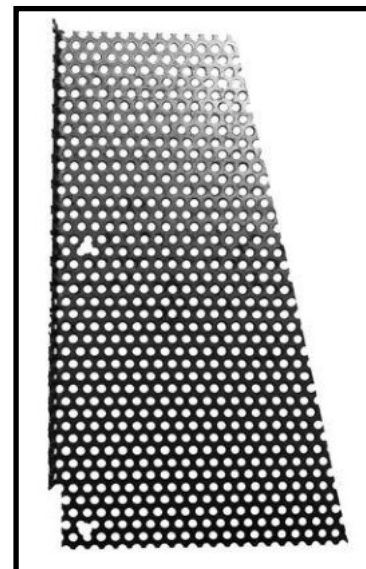
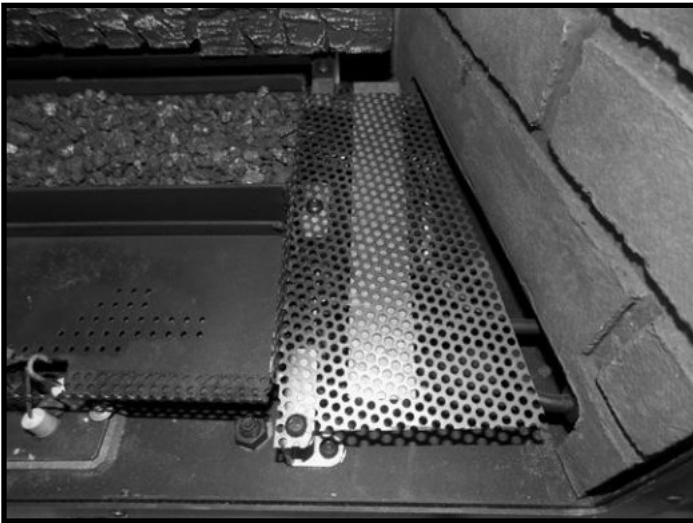
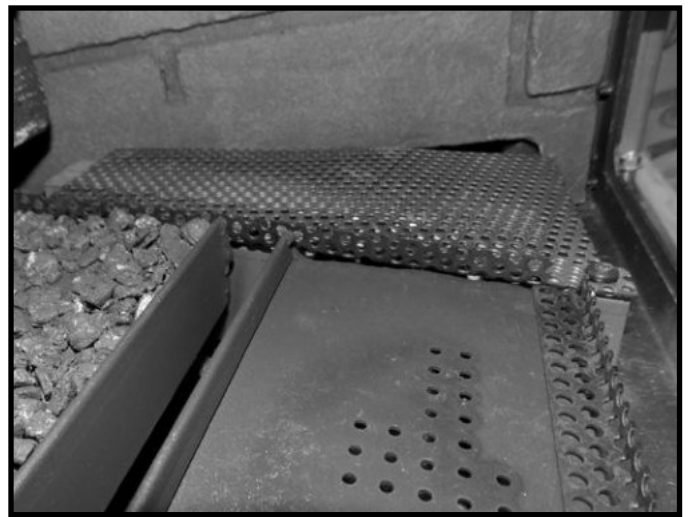

Figure 69: Side retainer.
Figure 70: Side retainer in place.
Figure 71: Front and side retainers in place.
5. Place the side vermiculite retainer (Figure 69) on the right of the burners and secure with supplied screws (Figure 70).
6. Once the front and side retainers are in place (Figure 70 and Figure 71), the log base pieces can be installed.